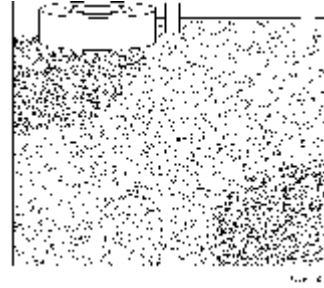

Figure 1. Make a Top Hinge
- Using the top hinge method, position the graphic, using strips of Scotch™ Masking Tape to hold the graphic to the substrate. Then, apply a strip of masking tape 5.1 to 7.5 cm (2 to 3 inch) wide, horizontally across the top of the graphic. See Figure 1.
8. Using the top hinge method, position the graphic patch, using strips of Scotch™ Masking Tape to hold the graphic to the substrate. Then, apply a strip of masking tape 5.1 to 7.5 cm (2 to 3 inch) wide, horizontally across the top of the graphic patch. See Figure 1. on page 2.